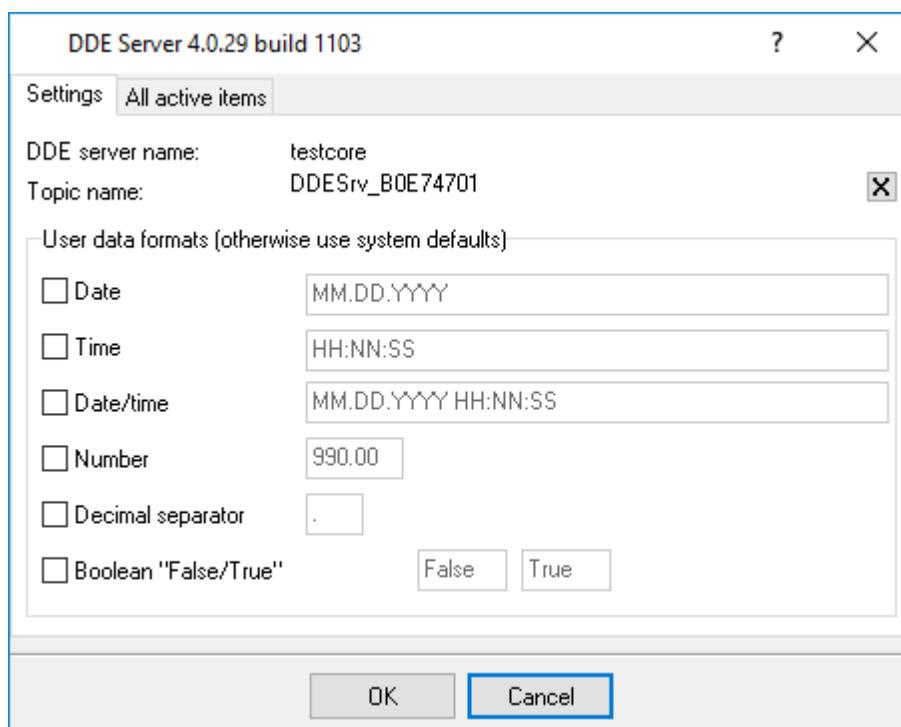

Fig.1. DDE server configuration window
5. You will see the server name in the "DDE server name" field and the section name in the "Section name" field in the new dialog box (Fig.1). You can copy data from these fields to the clipboard. To do it, select the text in the corresponding field and press **Ctrl+C** on the keyboard.